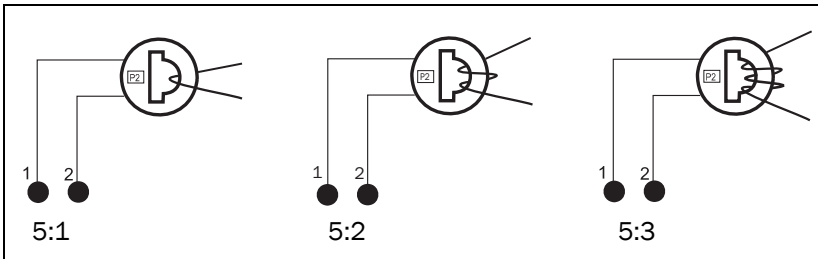

Fig. 5 Example 1, 2 and 3 windings.
Fig. 5 shows the different types of current transformer (CT) windings. In Fig. 5:1 the motor wire is just drawn through the CT, in the text and tables below this is described as 1 (one) winding. Fig. 5:2 shows a CT with 2 windings and Fig. 5:3, 3 windings. In other words the number windings is equal to the number of times the motor wire “L1” is drawn through the hole of the current transformer.